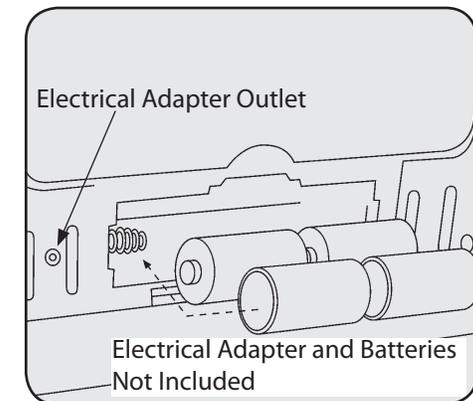

Figure 6
12. Installation of 4 D-cell batteries is required for fan operation. Battery box is located on lower back panel of heater. Follow instructions on battery cover for correct battery installation. See Figure 6.
13. Heater fan can also be powered by electrical adapter F276127. Required adapter to be 6 volt DC up to 800 milliamp current with positive tip polarity. See Figure 6.
13. Installation of 4 D-cell batteries is required for fan operation. Battery box is located on lower back panel of heater. Follow instructions on battery cover for correct battery installation. See Figure 6.
- Heater fan can also be powered by electrical adapter **F276127**. Required adapter to be 6 volt DC up to 800 milliamp current with positive tip polarity. See Figure 6.